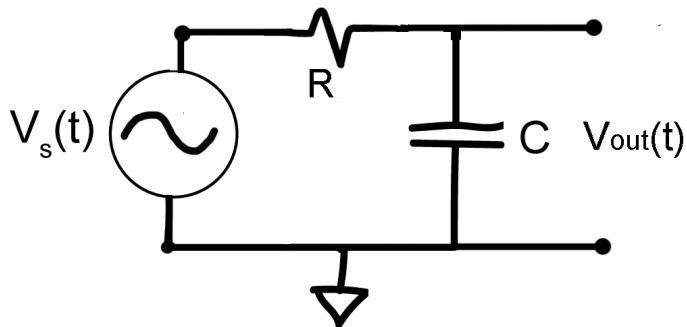

Figure 6.1.
**Q.1 Design a RC low-pass filter with  $f_{3\text{dB}} = 8.0 \text{ kHz}$  (Figure 6.1). Include a Screenshot from the oscilloscope of the rough performance that shows that the 3dB point is within design criteria. A nice way to accomplish this is with an image of the frequency sweep.**